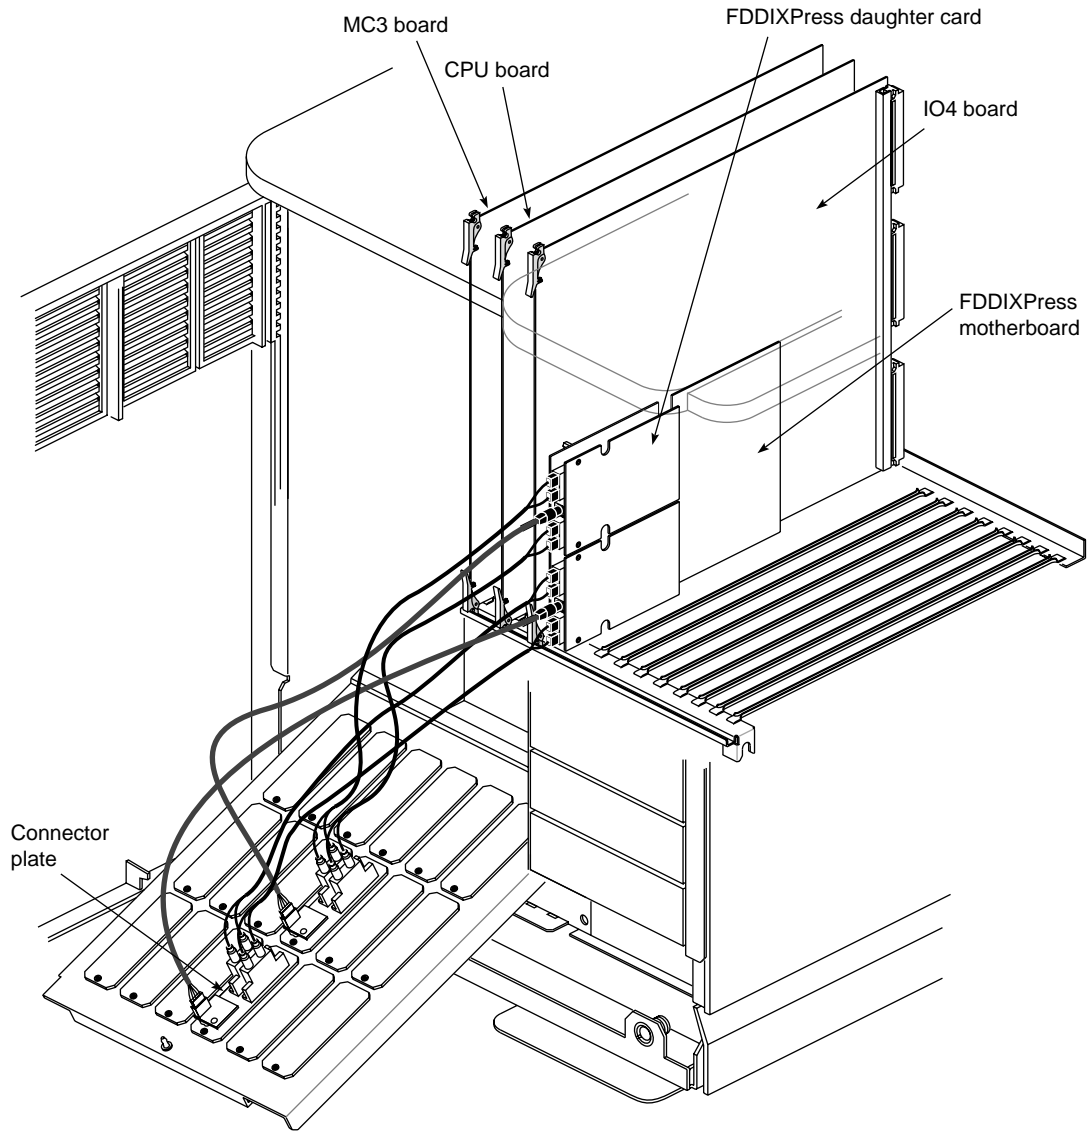
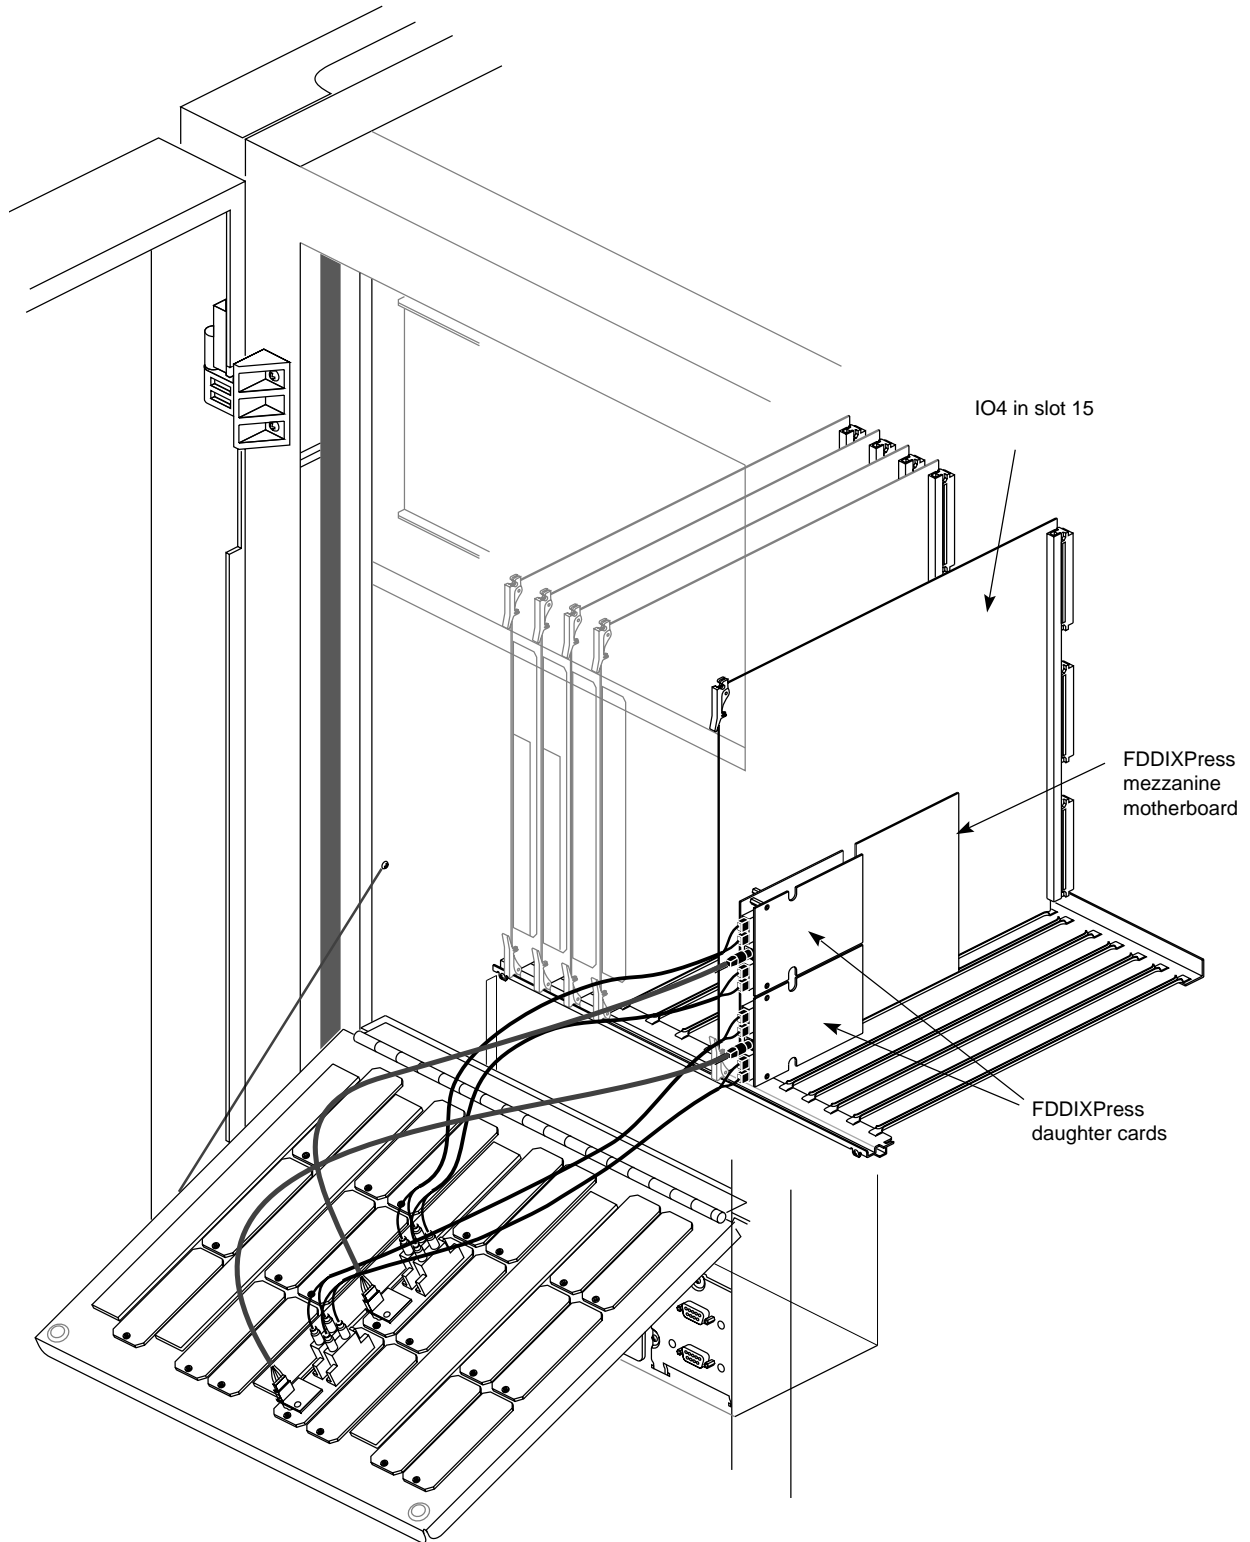

Figure 4-4 Onyx Deskside Internal Cabling Example
Figure 4-5 Challenge XL Rackmount Internal Cabling Example
The panel plates for a board in an upper mezzanine slot (adapter 6) should be positioned below the panel plates for a board installed in a lower (adapter 5) slot, as illustrated in Figure 4-4 and Figure 4-5. This positioning evens out the distances over which the internal cables must stretch.
3. Install the FDDIXPress panel plate. See Figure 4-4 for a deskside example and Figure 4-5 for a rackmount example.
3. Install the two FDDIXPress panel plates in the I/O door. See Figure 4-4 for a deskside example and Figure 4-5 for a rackmount example.